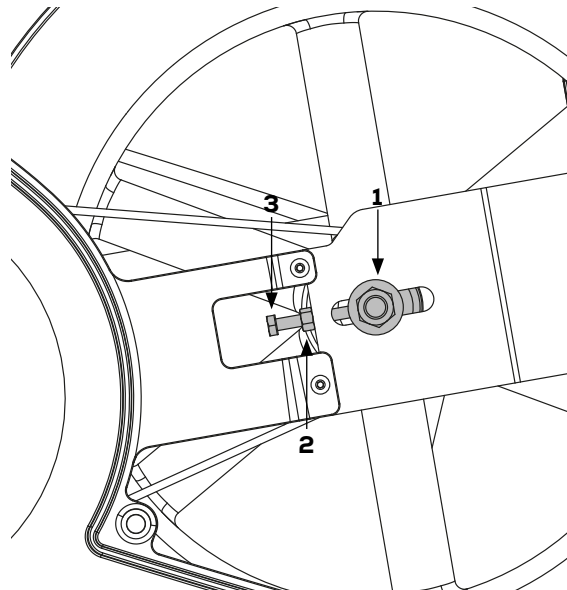

Figure 27
2) Loosen the bolts (1) on both sides of the cycle with a 19 mm wrench, See figure 27
3) Loosen the nuts (2) on the counter bolt on both sides of the cycle with a 10 mm wrench, see figure 27.
4) Use a wrench to tighten the counter bolts (3). On the right side, the tool should be pulled downwards and on the left side upwards to tighten with a 10 mm wrench.
6) Tighten the counter bolt (2) on both sides of the cycle again.
7) And tighten the bolt(1) again on both sides of the cycle.